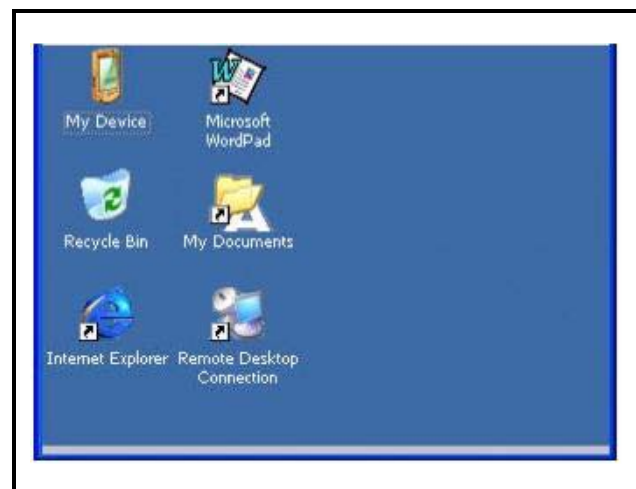

Figure 5-12 - Desktop Screen
4. The desktop screen will appear (*Figure 5-12*). Press and hold on the desktop screen to bring up the pop-up desktop menu and select **Properties**.